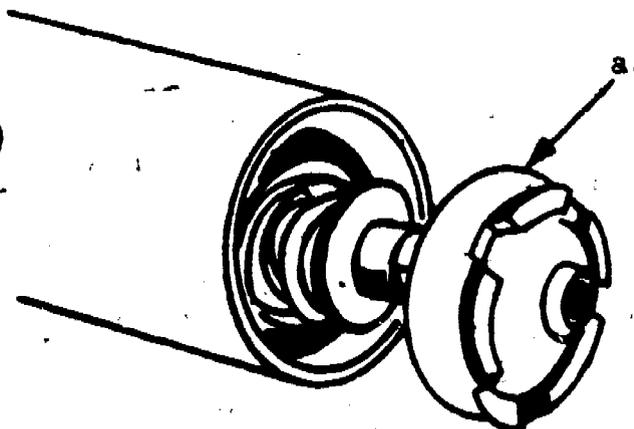

Figure 2.
- STEP 3. Unscrew and remove cover (Item a in Figure 2).